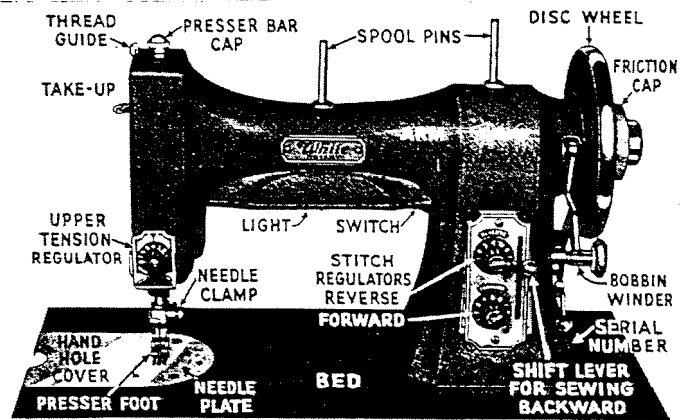
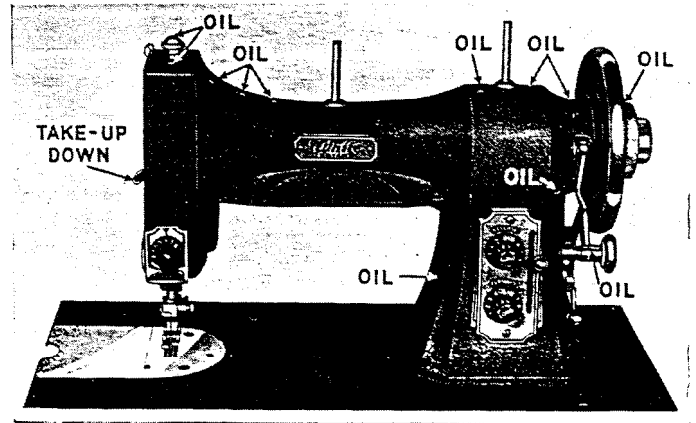
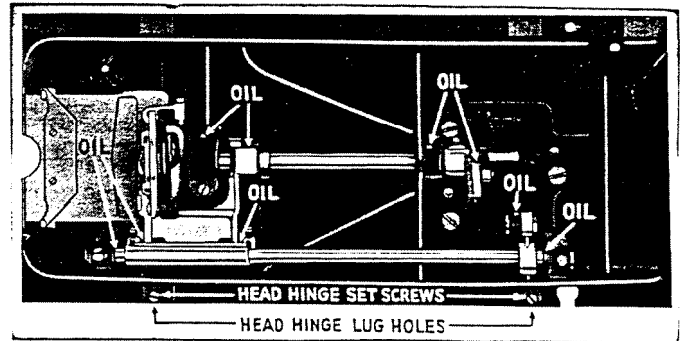
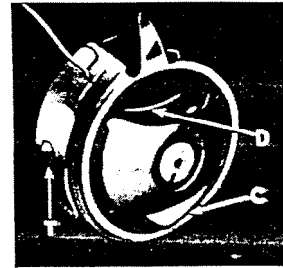

FIGURE 1
FIGURE 3
FIGURE 4
FIGURE 13
See Fig. 1. In the accompanying illustration (Fig. 1) the principal parts of this White Rotary Electric are designated by their names. Study this picture carefully to familiarize yourself with the names and locations of these functional parts which will be referred to throughout this manual.
Before starting to oil the machine it is very important that the disc wheel be turned by hand until the take-up (Fig. 1) is at its lowest point. Apply a drop of oil at points shown by arrows in Figs. 3 and 4. To reach points indicated in Fig. 4, tip the sewing head back on its hinges.
See Fig. 10. Remove hand hole cover (Fig. 1) by lifting it up at finger hole, permitting you to reach down through hole to shuttle. Hold bobbin case by lips C and D (Fig. 13) with first finger and thumb of left hand, at the same time depressing lip D with thumb. Reach down through hole and slip bobbin case into place over center pin of shuttle, with projecting tongue upright. Push in as far as case will go and release thumb pressure on lip (D), allowing it to snap upward into place, holding the bobbin case in position.
See Fig. 10. After removing hand hole cover, reach down with left hand and take hold of bobbin case by lips C and D (Fig. 13) with first finger and thumb. A slight pressure with the thumb will depress lip D and the case may be readily removed.
Always stop the machine with take-up (Fig. 1) at its highest point. Raise the presser foot with the lifter. Holding the sewing with the left hand pull it directly toward the back of machine, keeping the top thread in the presser foot slot, to avoid bending the needle. Then lift the sewing and draw the threads, together, over the thread cutter (Fig. 1) pulling downward. Both threads will be cut the proper length to again commence sewing.
See Fig. 13. Tension on the lower thread is regulated by adjusting screw (T) in bobbin case. To **increase** the tension **tighten** the screw; to **decrease** tension **loosen** the screw.